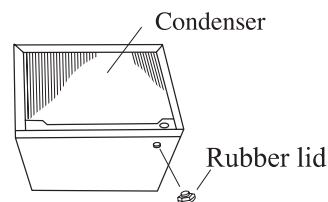

Fig.2
- Lift the back of the machine body slightly. You can see the drain hole at the back of the bottom plate. Plug the black rubber lid of the enclosed accessories into the hole. (see Fig. 2).